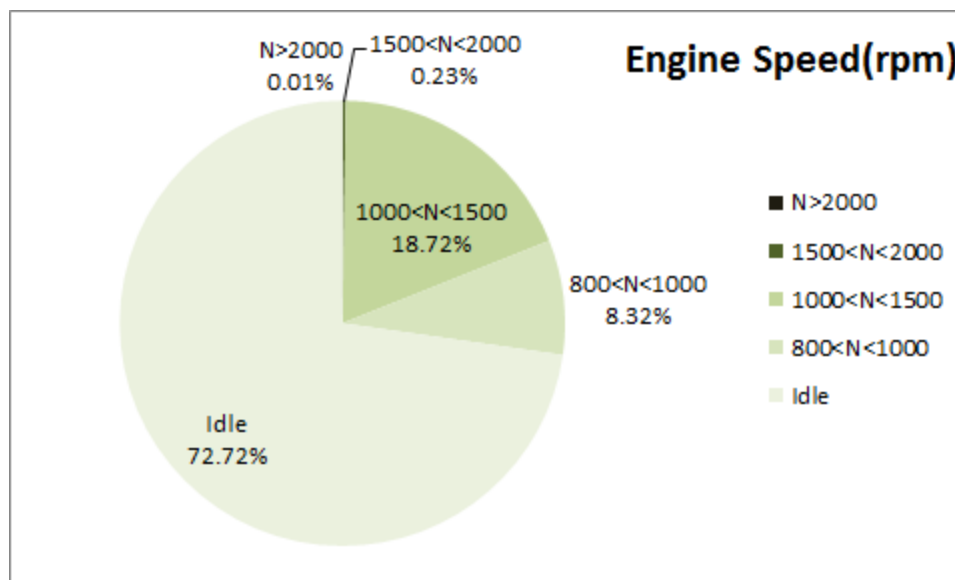
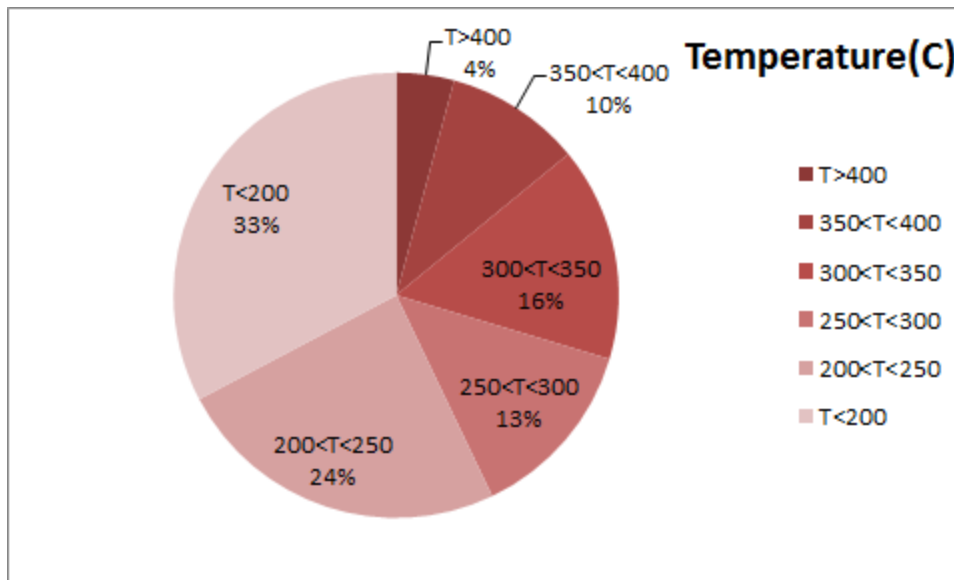

Figure 2- Engine speed distribution over the working hours
Figure 3-Temperature2 distribution over the working hours (after DPF installation)
- Figure 3 displays flow temperature distribution for DPF's upstream. It can be obviously observed that 4 % of total working time, temperature is above 400°C. Considering Figure 3 it can be obtained that, high temperature distribution in figure 2 was the result of high backpressure. So this deceptive temperature distribution can't guarantee passive filter operation.